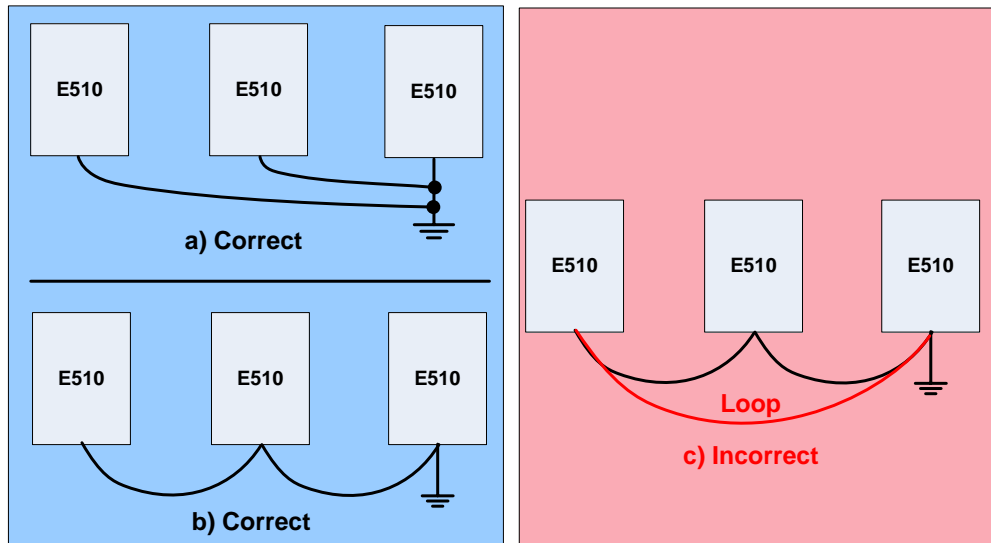

Fig. 3.11.1 Inverter Grounding
1. Connect the ground terminal (E) to ground having a resistance of less than 100Ω .
4. When using more than one inverter, be careful not to loop the ground wire, as shown below in Fig. 3.11.1.